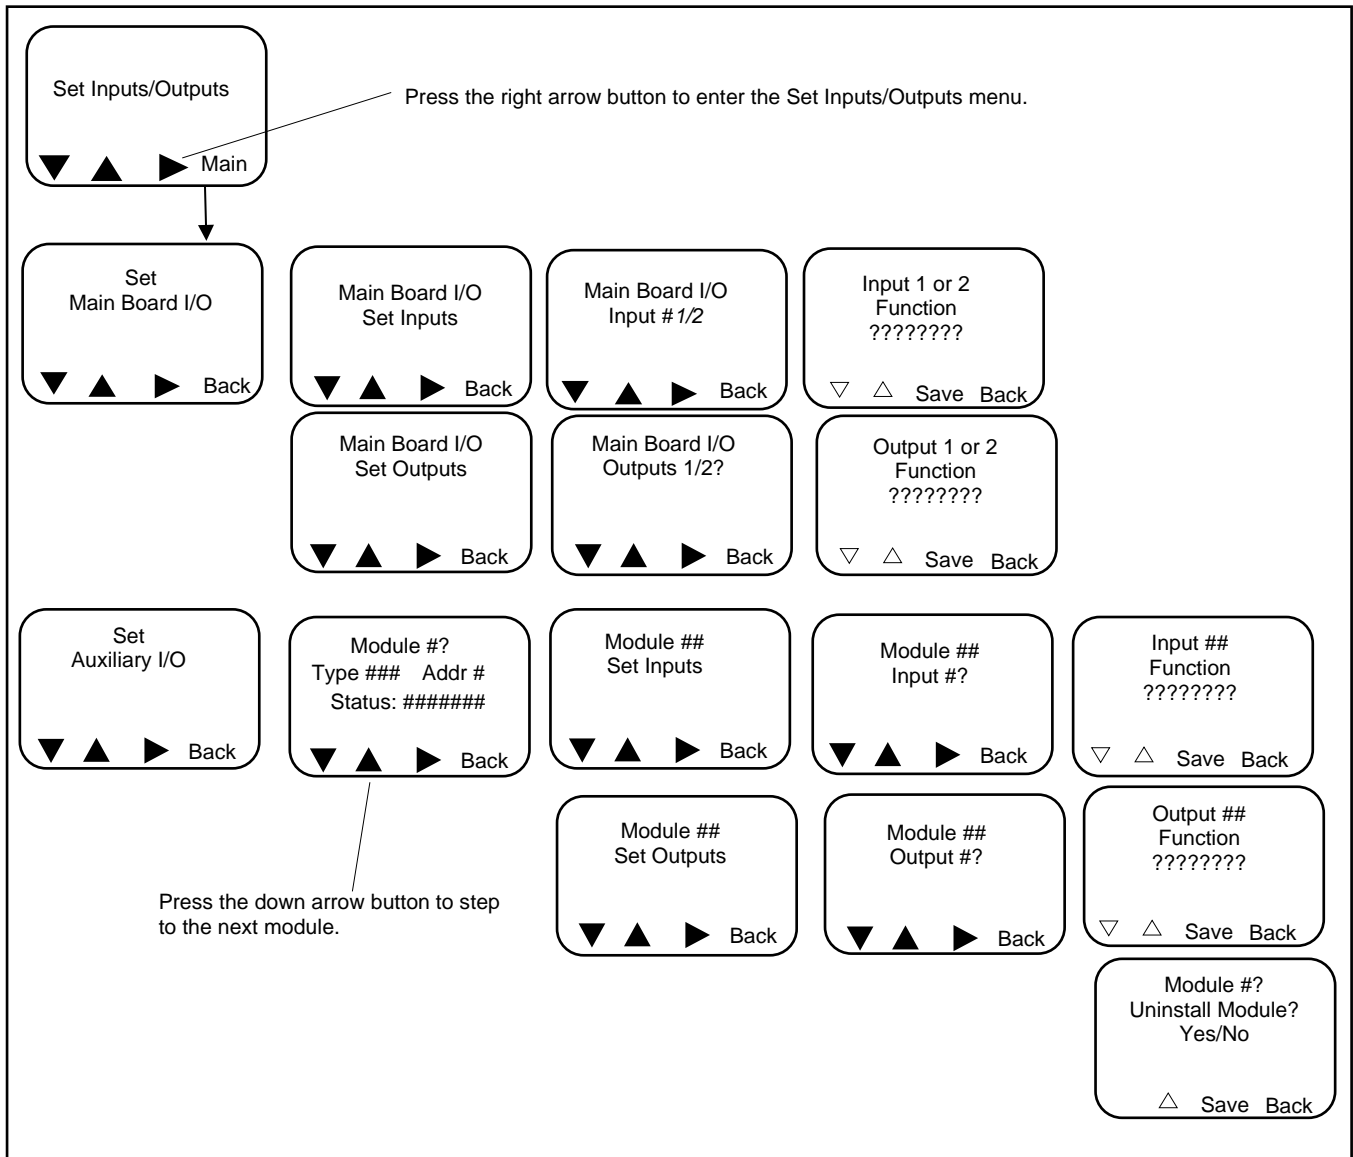

Figure 42 Assigning Inputs and Outputs
- Using the controller's keypad and display; see Figure 42.